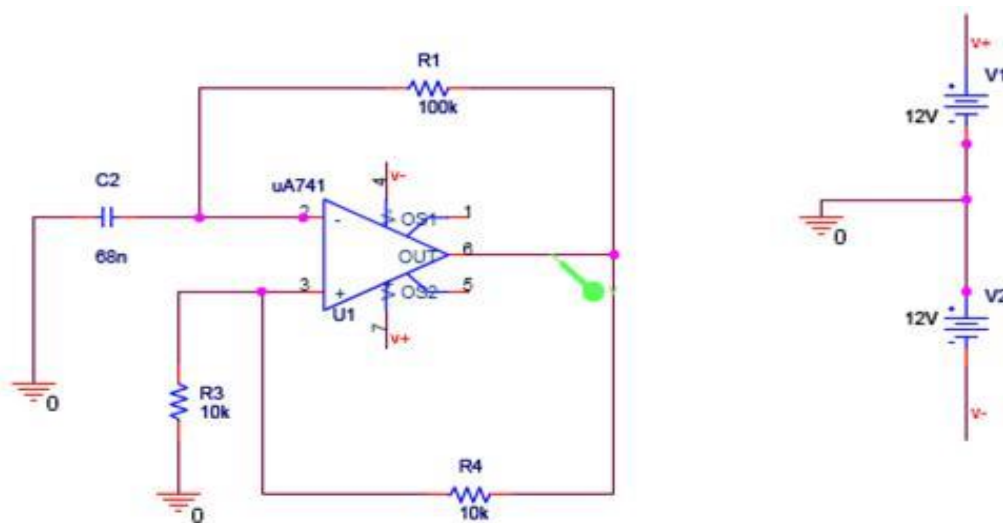

Figure F1.3
- Implement the circuit of Figure F1.3.